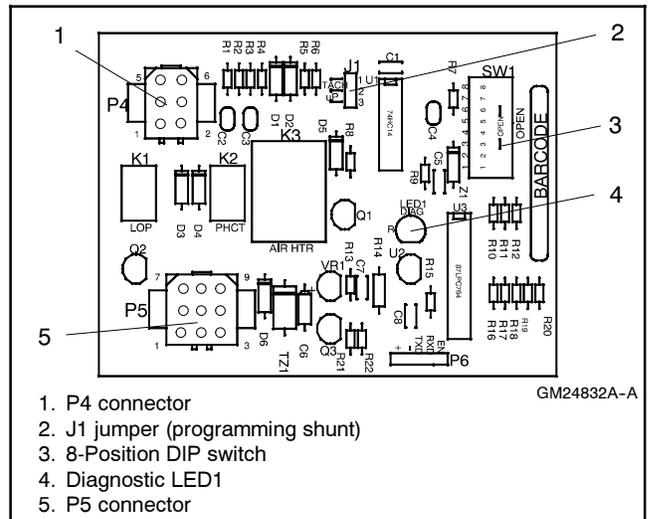

Figure 7 Pulse Converter Circuit Board GM24832
- 7.1 Refer to Figure 7 for the location of the pulse converter circuit board. This circuit board is typically used only on a limited number of generator set models.